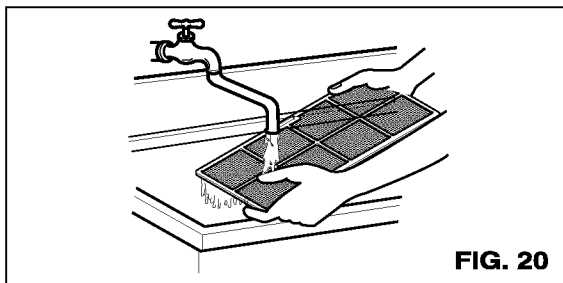

FIG. 20
- Wash the Air Filter under the faucet with warm water. Be sure to shake off all the water before replacing the filter. (FIG. 20)